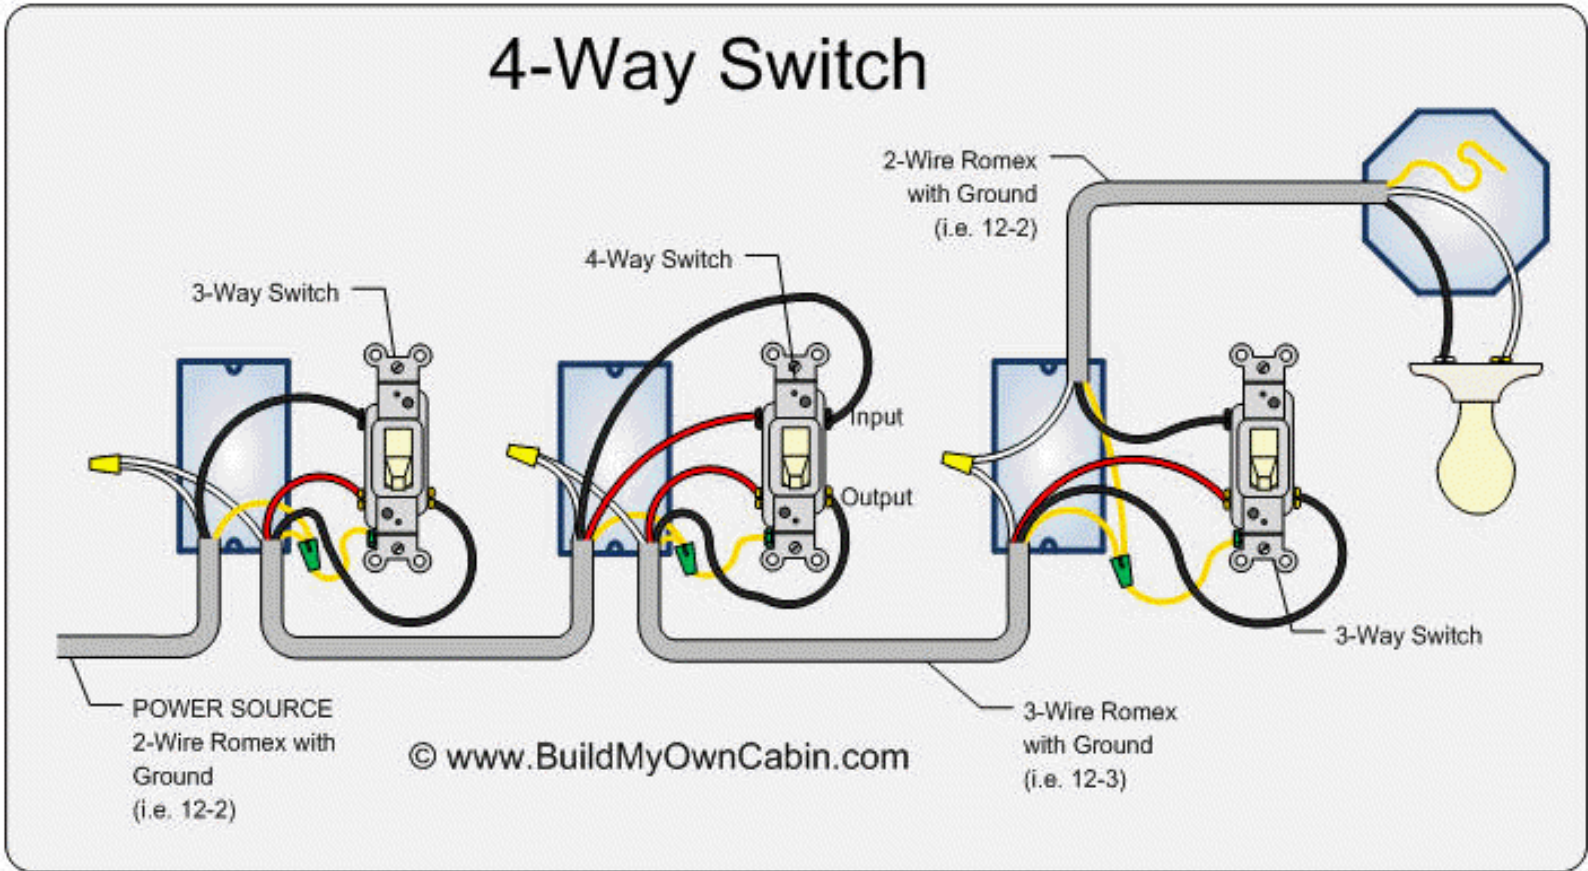

Figure 3: Wiring diagram for a multi-switch circuit.
9. Build the multi-switch circuit. Figure 3 shows the correct method for wiring a three-switch circuit by using three-way and four-way switching techniques. NOTE: The image does not show the grounding of the receptacle boxes. You are required to ground them.